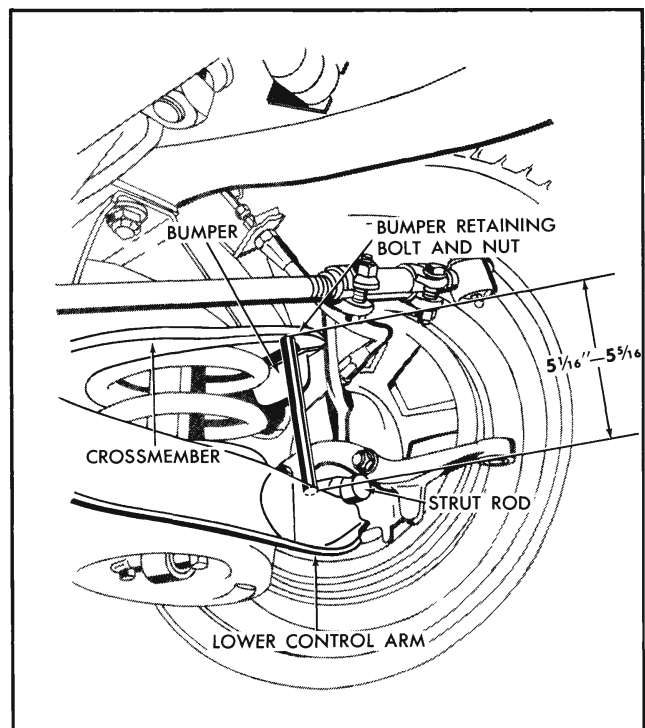

Fig. 3-9 Measuring Front Suspension Curb Height
1. In front, measure height at a point directly in front of spring (Fig. 3-9).